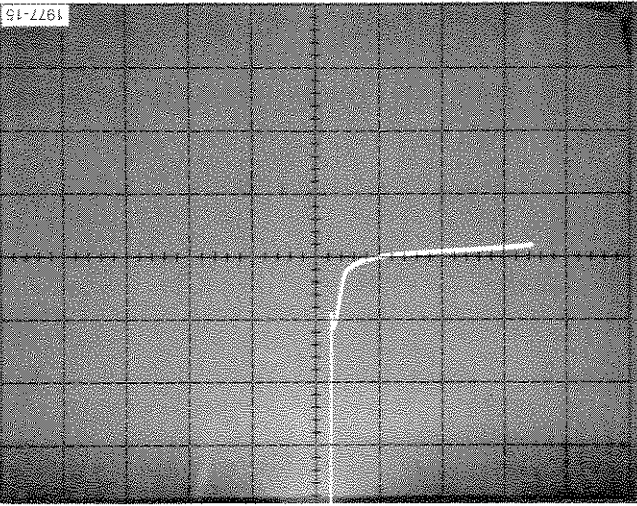

Fig. B-4. Display of — power supply rejection ratio (—psrr).
- From the display, calculate the — Power Supply Rejection Ratio in the same manner that +PSRR was calculated in Step 2. See Fig. B-4.